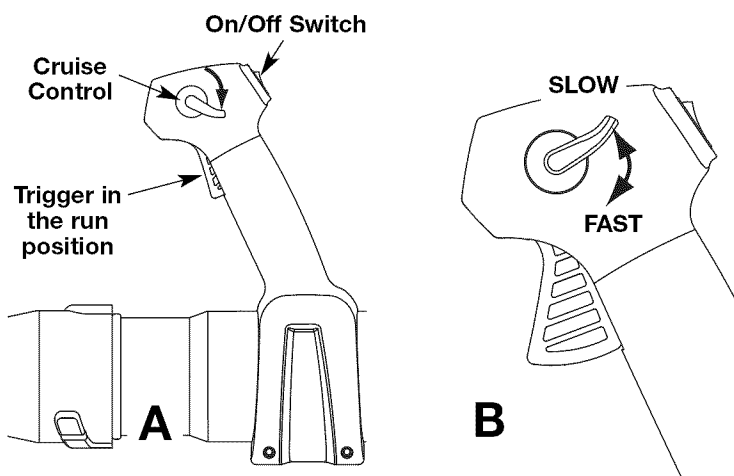

Fig. 12
- Press down the cruise control to lock the trigger in the FAST position (Fig. 12, A).
- Raise the cruise control to return the trigger to the SLOW position (Fig. 12, B). The unit is ready for use.
- Once the engine has started and warmed up, squeeze the trigger to accelerate the unit as needed (Fig. 12, A).
- For longer periods of operation and to eliminate possible finger fatigue, move the cruise control toward the FAST position to incrementally increase or maintain the unit's engine speed (Fig. 12, B). When the cruise control is pressed, the trigger will recede into the handle.
- To decrease engine speed, move the cruise control to the SLOW position and the trigger will return to idle position (Fig. 12, B).
- Press the On/Off Switch in the OFF (O) position and hold until the engine comes to a complete stop (Fig. 12, A).
- Use the cruise control (Fig. 12, A) to keep the trigger depressed while operating to make continuous operation easier.